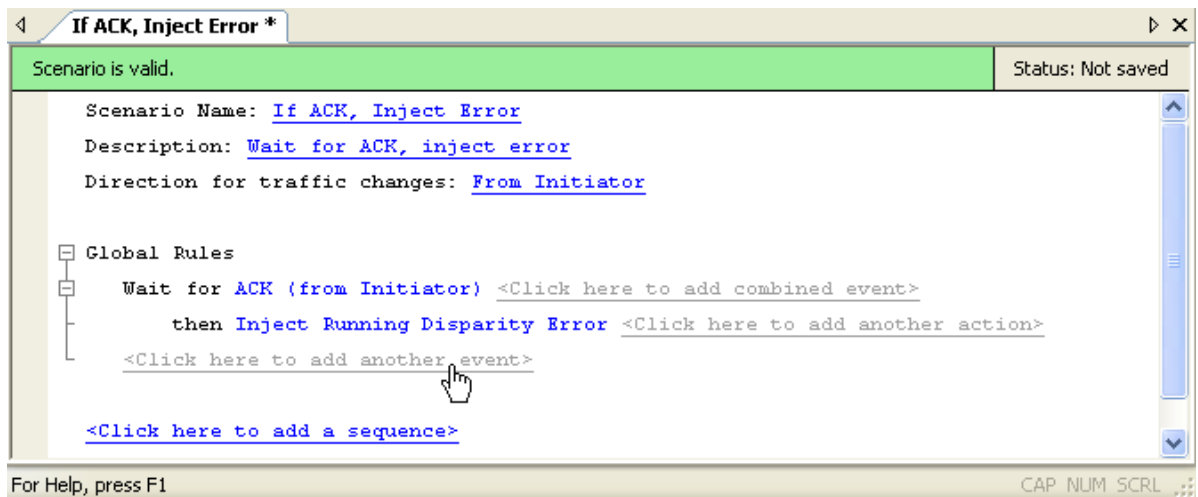

Figure 4.30: Example 6: Entering the Second Event
- Click the prompt to **add another event** (keep in mind this is not a combined event) (see Figure 4.30 on page 261).